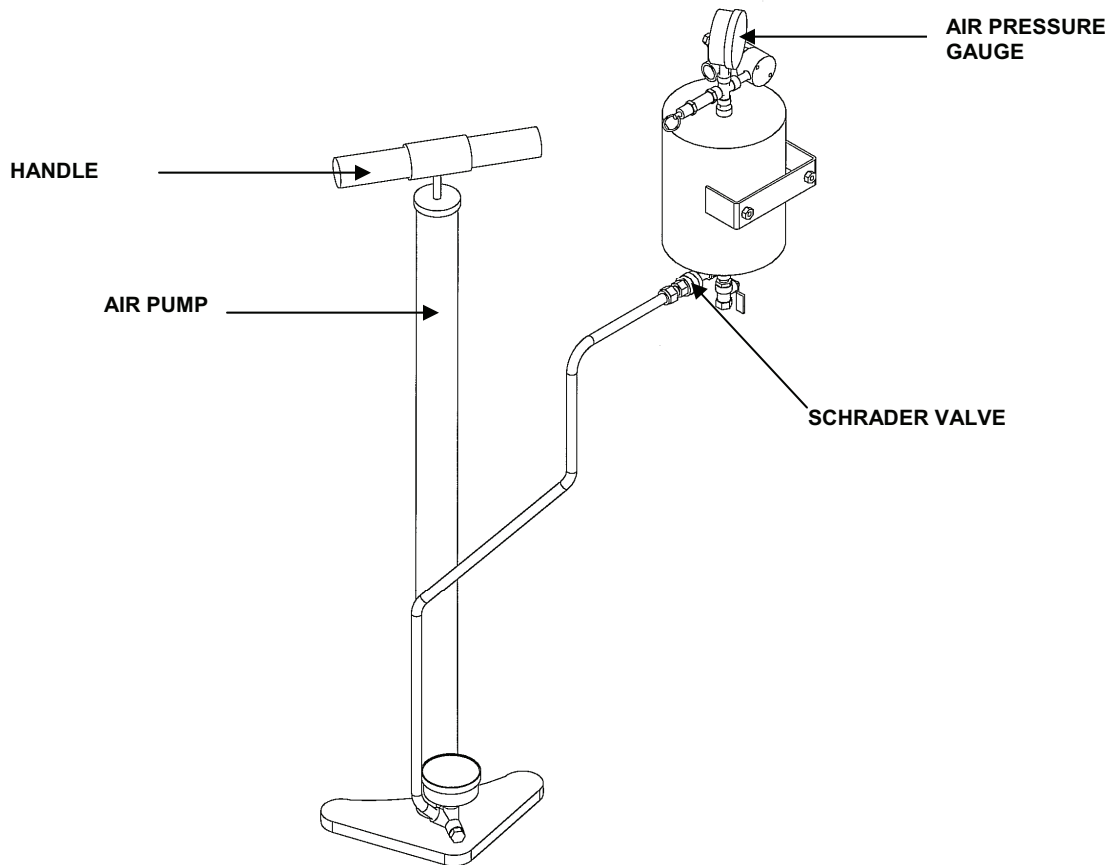

Figure 23. Filling up the Air Tank.
2. Rotate the handle 90 degrees in either direction (to vertical) and slide it into the deeper slot. See Figure 23.
- a. The air pump from the BII is used to fill the air tank. See Figure 23.